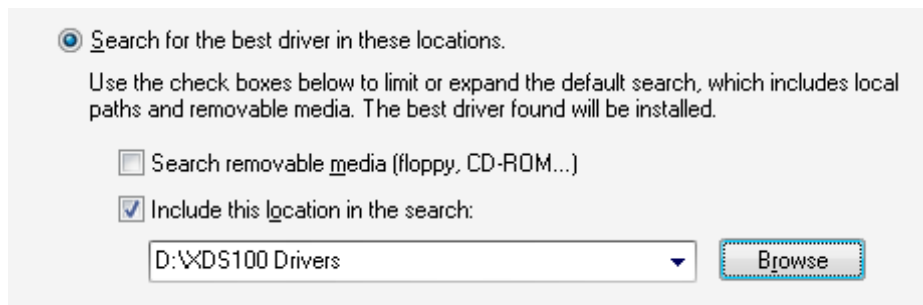

Figure 11. Search for Best Driver
- Select “Search for Best Driver” (see Figure 11). Uncheck search removable media, and check include specific location and browse to [USB Drive]:\XDS100 Drivers.